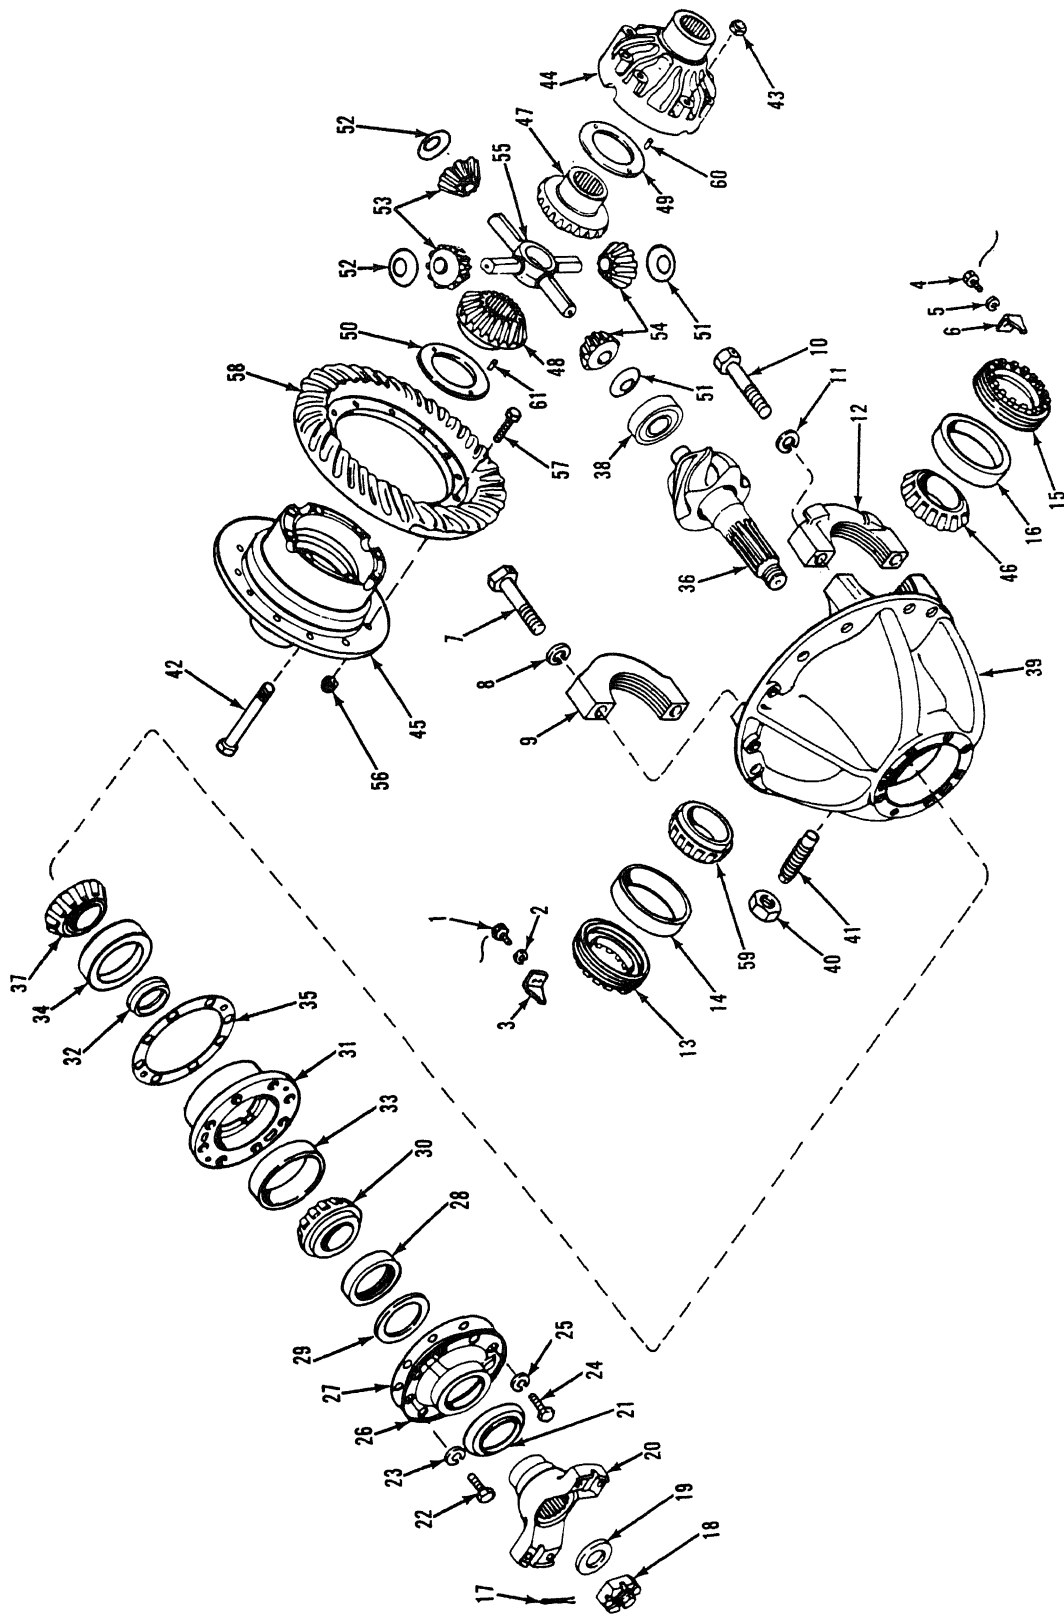

Figure 7-22. Differential, exploded view.
b. Disassembly. Refer to figure 7-22.
(1) Position the differential in a differential overhaul stand.
(2) Check and record the ring gear backlash with a dial indicator. This information is necessary for reassembly, unless a new gear set is installed.
(3) Match mark the differential bearing caps to the carrier to ensure correct reassembly.
(4) Remove and discard all lock wires.
(5) Remove capscrew (1), lockwasher (2), and adjusting nut retainer lock (3). Remove opposite side capscrew (4), lockwasher (5) and adjusting nut retainer lock (6).
KEY to fig. 7-22:
(4) Inspect the bearing cups and cone for nicks, scratches, burrs, scoring, pitting, and wear. Replace damaged bearings.
(5) Inspect the companion flange for cracks, burrs, twisted splines and other damage. Remove burrs with a soft honing stone or crocus cloth. Replace flange if cracked or if splines are twisted.
(6) Inspect side gears and pinion thrust washers and differential thrust screw for damage and wear. Replace damaged or excessively worn thrust washers.
d. Reassembly. Refer to figure 7-22.